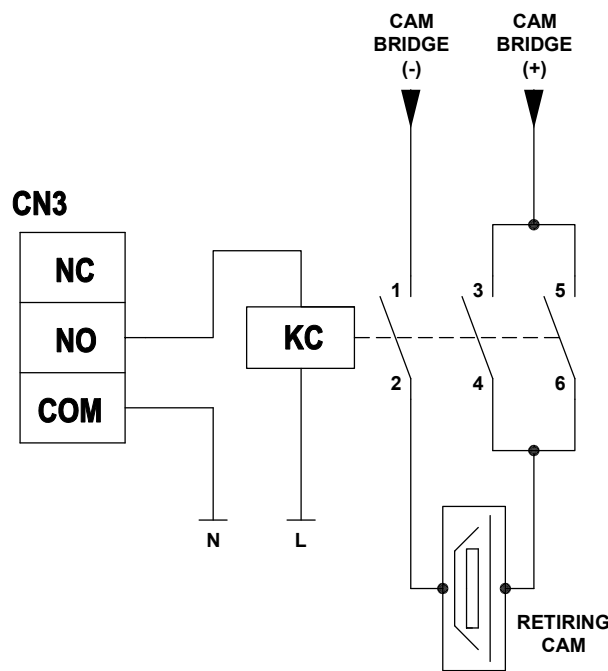

Figure 9.0 - Manual Door Connections
The Manual Door operating terminals are wired and connected as illustrated in Figure 9.0.
- For Manual Doors operating through a Retiring CAM, the external CAM contactor is connected to the XC-8 series as illustrated in Figure 9.0.
- The Retiring CAM is operated by the DC voltage of the external bridge through the contactor as illustrated in Figure 9.0.